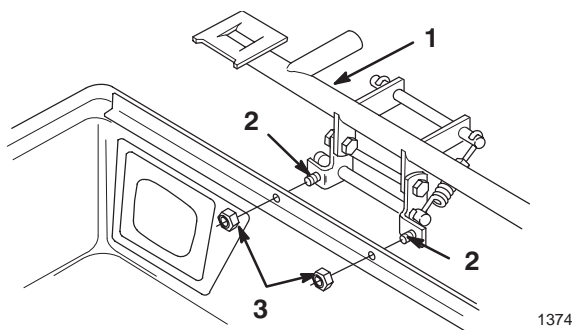

Figure 12
- Mount the frame hinge to the cover with the bolts attached to it, securing it with 2 locknuts (1/4 in.) (Fig. 12).